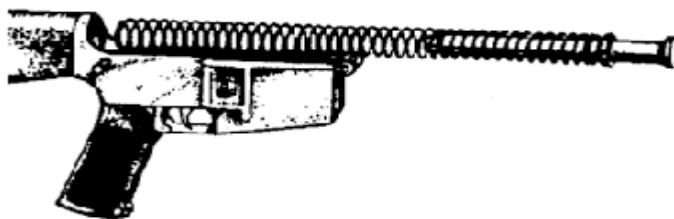

Figure E-24. Placing the spring and buffer
- a. Insert the spring and buffer (figure E-24).